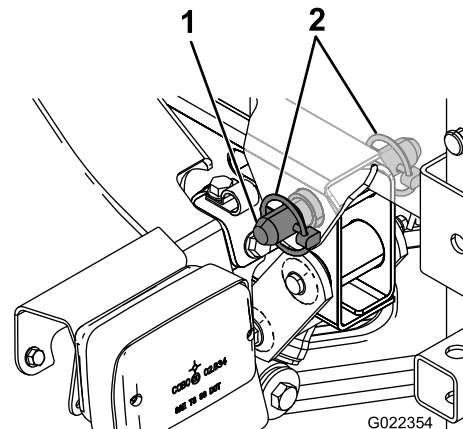

Figure 11
- Line up the pivot lug at the rear of the tank skid assembly with the opening at the end of the vehicle frame (Figure 11).
- Install a tapered clevis pin and 2 lynch pins to the pivot lug to secure the tank assembly to the frame (Figure 11).